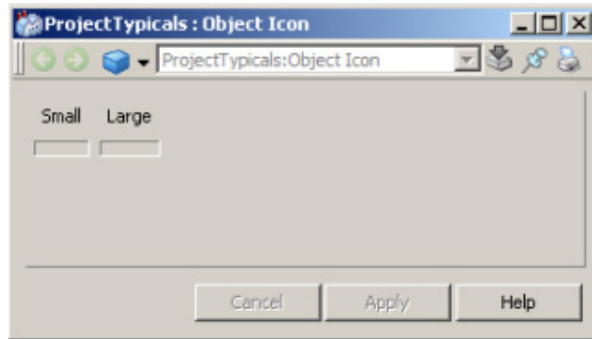

Figure 340. Selecting an Icon
3. Double click on Small or Large icon box as shown in Figure 340.